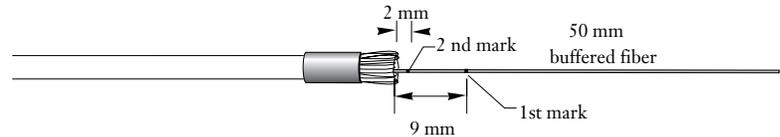

Figure 4-20
- 4.5-8 Measure and mark the 900  $\mu\text{m}$  buffer coating 9 mm from the end of the cable jacket (Figure 4-20).